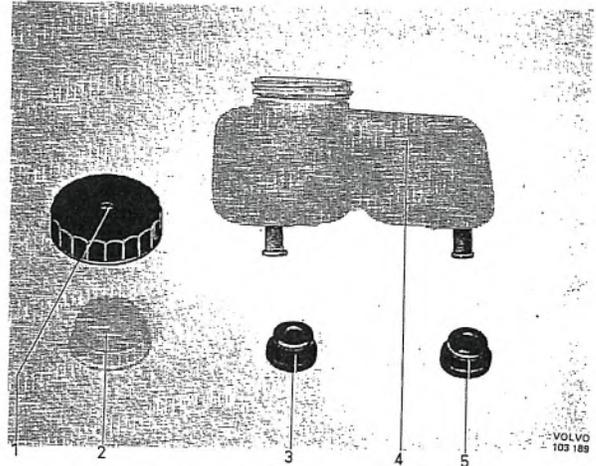
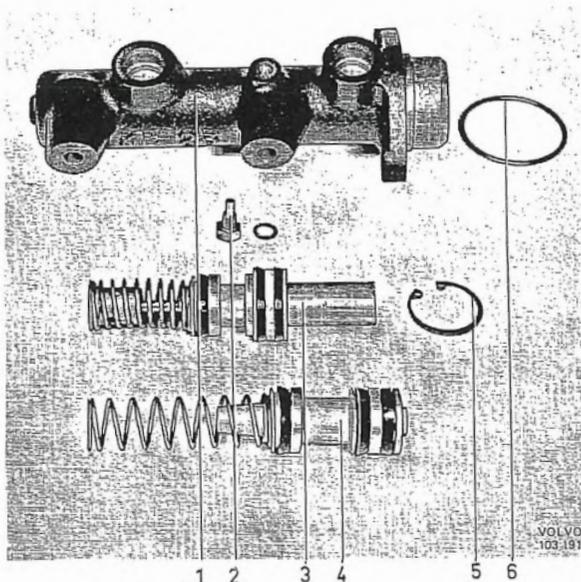

Fig. 5-46. Container parts
Fig. 5-48. Master cylinder disassembled
2. Place both hands under the container and pull it up from the rubber seals. Remove the filler cap and strainer from the container and also the rubber seals from the cylinder, see Fig. 5-46.
If wear on the cylinder or secondary piston is suspected, the diameter should be measured with a micrometer or indicator. The cylinder bore must not exceed 22.40 mm (0.881") and the diameter of the piston may not be less than 22.05 mm (0.870"). Each time reconditioning is carried out, replace the primary piston (3, Fig. 5-48) and the secondary piston (4, Fig. 5-48) complete as well as the stop screw (2) with washer and circlip (5), also the sealing ring (6). Moreover, the rubber seals (Fig. 5-46) for the container should be replaced.
1. Place the sealing ring (6, Fig. 5-48) on the master cylinder. Fit the cylinder in position and then the washers together with the attaching nuts. The tightening torque for the nuts is 12-15 Nm (8.7-10.8 lbft).